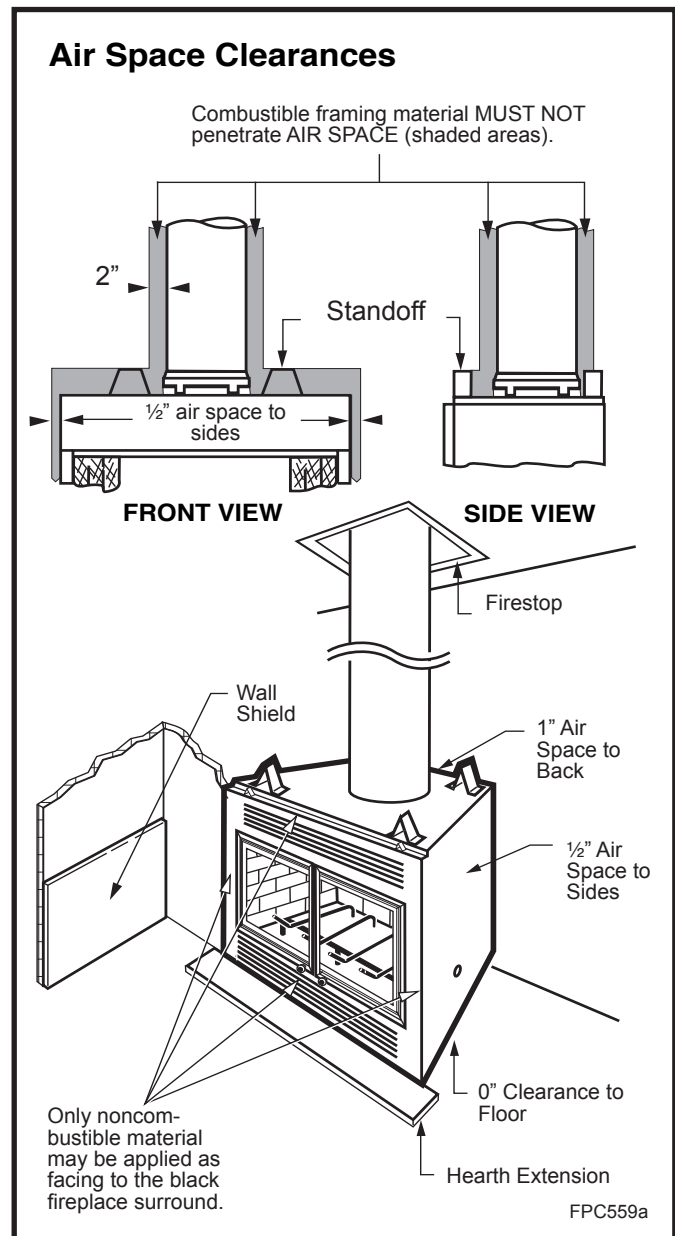
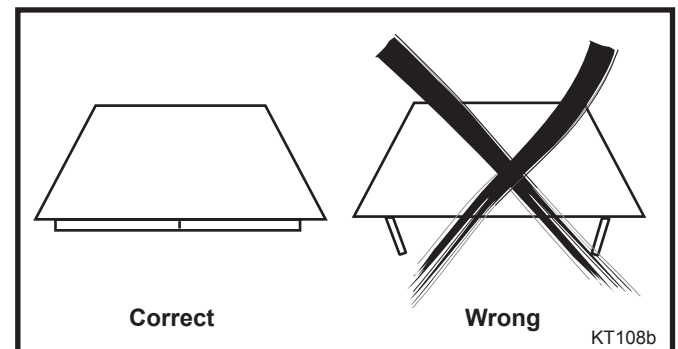

Fig. 17 Minimum clearances to combustibles.
Fig. 23 Correct door position.
**CAUTION:** All joints between the finished wall and the fireplace surround (top/sides) must be sealed with non-combustible material to prevent cold air leakage into the room. Only noncombustible material may be applied to the facing of the fireplace surround. (Black painted area) (Fig. 17)
Adjacent combustible side walls that are within minimum dimensions shown in Figure 23 of the fireplace opening must be protected with a specifically built wall shield as described in Figure 17.
The BFC36 is intended for use only with the doors fully closed. (Fig. 23)